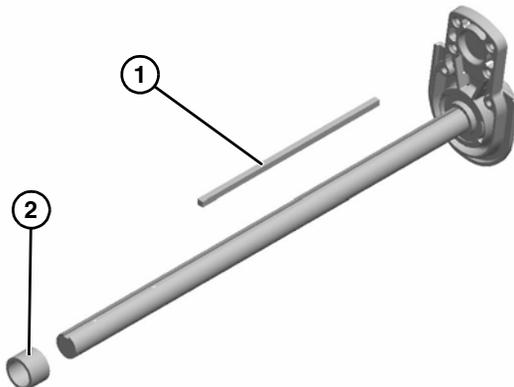

Figure 42
- Remove drive spindle key (Figure 42, item 1) and tube spacer (Figure 42, item 2).